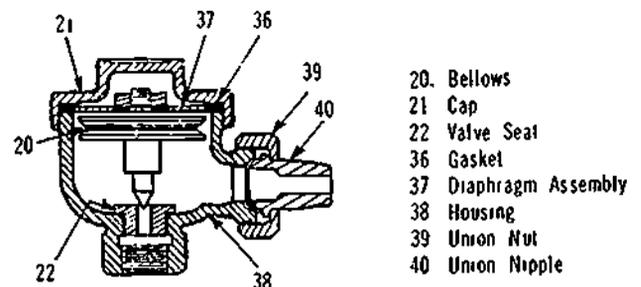

Figure 31-11. Thermostatic Steam Trap
98. *Thermostatic Steam Trap.* (Refer to Figure 31-11 in the accompanying appendix.) Thermostatic steam traps are installed in steam lines of sterilizers to allow air and water to be expelled from the system. The trap consists of a body (38), a valve